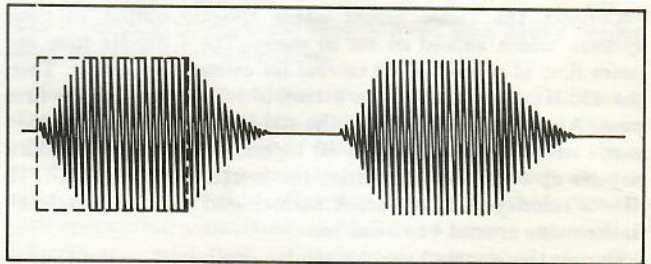

Fig. 5 (B) . If your cartridge has a resonant peak at or near the frequency of the tone burst, the scope pattern will look like this.
Fig. 5 (A) . If your cartridge has a severe dip in its frequency response at the same frequency as the tone burst, the oscilloscope pattern will look like this. (The dots outline a perfect response.)